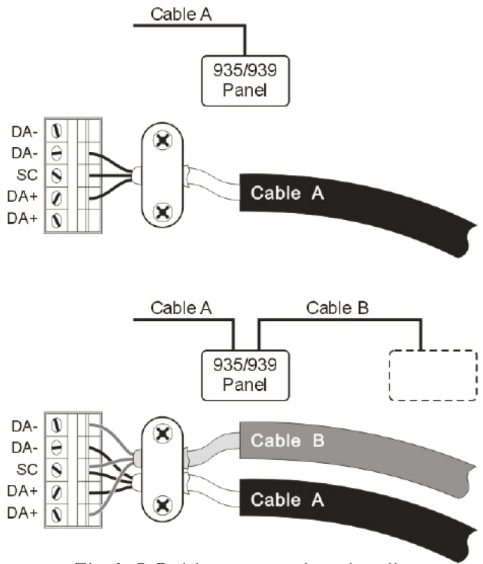

Fig.1-2 Cable connection details
3. Insert each data conductor into the appropriate terminal (see Fig.1-2) and tighten the terminal screw.